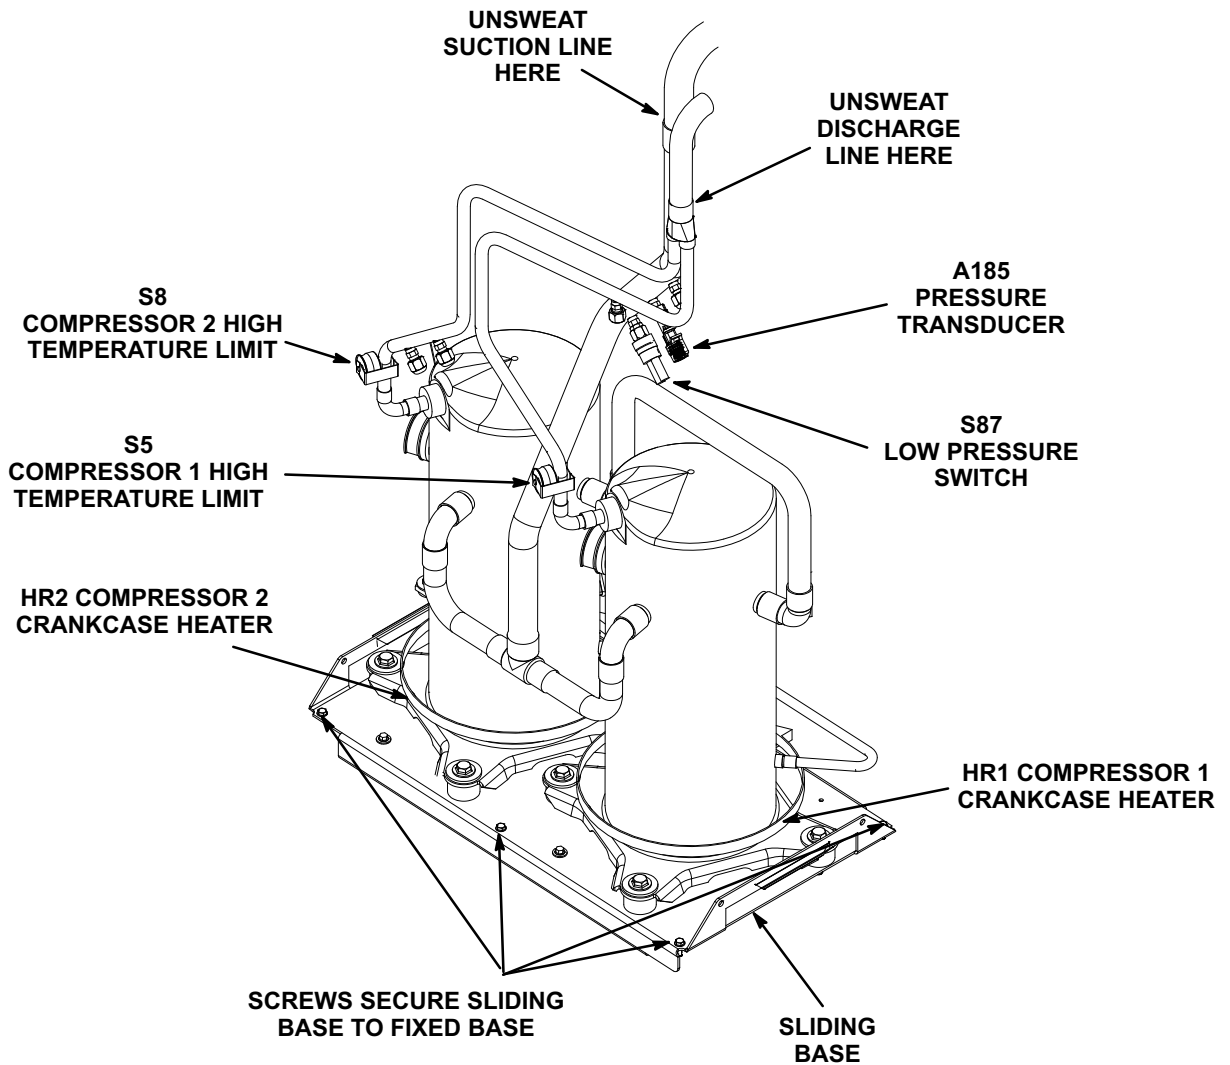

FIGURE 3
- 3- Remove and retain the following components to be installed on the replacement compressor. See figure 3.
- 4- Unsweat suction and discharge lines at locations shown in figure 3.
into the unit in the same manner the existing compressor assembly was removed. Secure the sliding base to the fixed base with the four screws as shown in figure 3.
- 7- Replace the following retained components in the same manner they were removed. See figure 3.